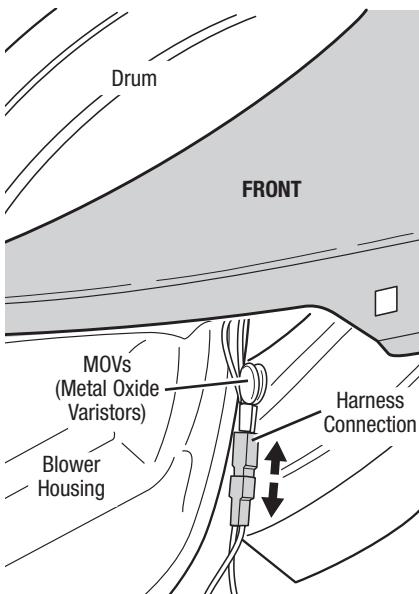

Figure 11. Disconnect sensor from wire harness.
5. Access the moisture sensor wires by removing the toe panel. Disconnect the sensor wires from the harness. See figure 11.